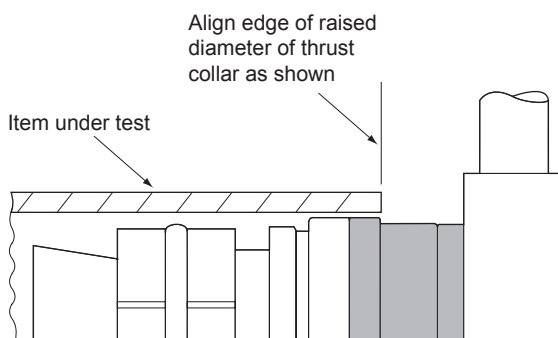

Figure 2.
2. Type R Hydroplugs must be assembled with the large diameter of the "Thrust Collar" abutting the seal. (see Figure 2).
5. Insert the Hydroplug into the bore. The thrust collar of Type R Hydroplugs must be aligned with the item under test as shown in Figure 2. Type RS Hydroplugs must be aligned such that one half of the thrust collar protrudes from the end of the item under test.